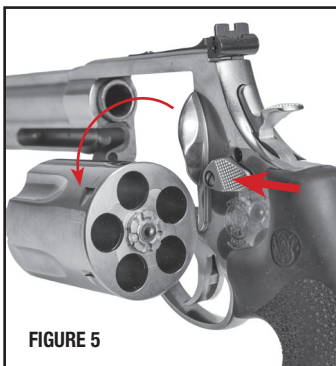

FIGURE 5
- With your finger off the trigger and outside of the trigger guard (FIGURE 5), keep the barrel of the firearm pointed in a safe direction. Press the thumbpiece fully forward and hold it,